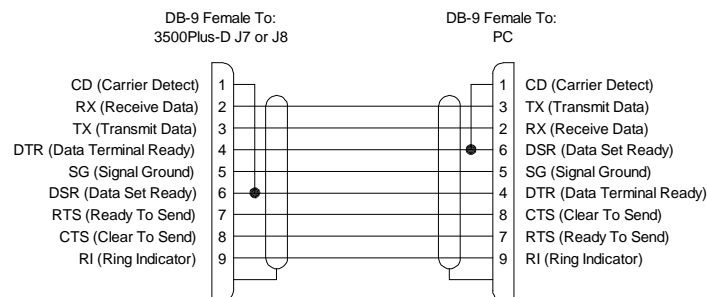

Figure 44: 3500Pro-D RS-232 CPU Link (Null Modem) Cable
- COM 1 is the primary RS-232 CPU Link and may be connected to the PC running 3500Pro Control System software with a null modem cable (Part No. 81-9028-0393-0). If necessary, a cable up to 50 feet in length may be fabricated in the field as shown in Figure 44. COM 1 may only be used with the P1E protocol, at either 9600 or 38400 baud. The communication rate is selected with switch S1 as described in “S1-3 COM 1 Rate” on page 45.